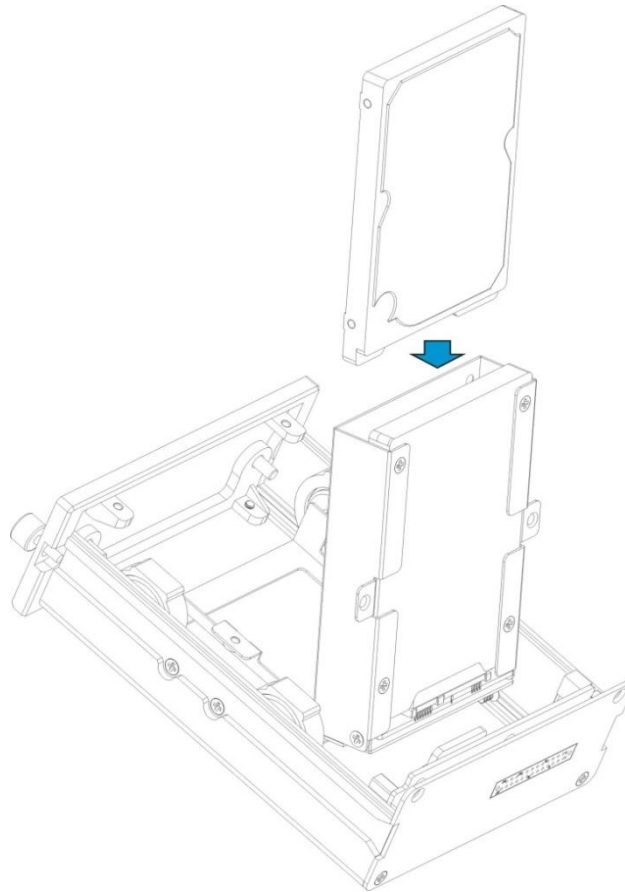

Figure 3-4
- 4) Install the second HDD. Follow the arrow in Figure 3-4 to put the 2nd HDD to the HDD bracket. Line up the screw holes of the HDD to the HDD holes and then use the screws to secure the HDD firmly.